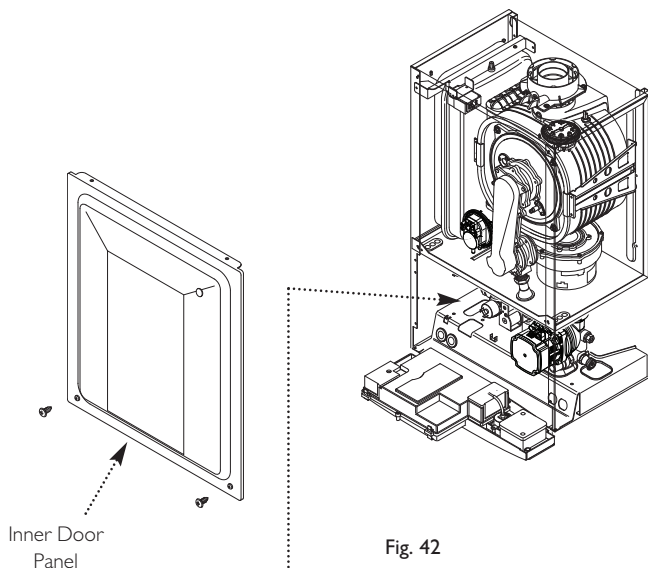

Fig. 42
4. Remove the screws securing the inner door panel. Lift the panel slightly to disengage it from the studs on top of the case (Fig. 42).